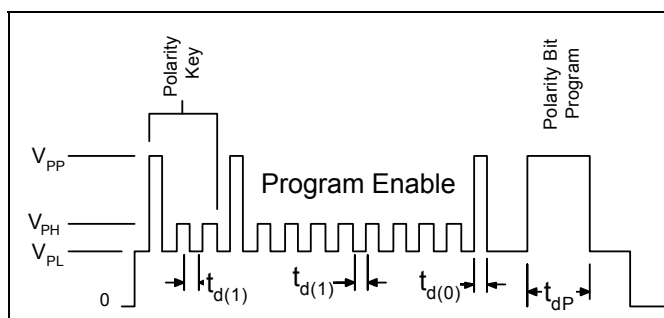

Figure 6. Polarity Bit Programming
**Polarity Bit Programming** If the desired switchpoint has negative polarity, the polarity bit must be programmed. To do this it is necessary to first apply the polarity key sequence before the program key sequence (figure 6). Finally a  $V_{PP}$  pulse of duration  $t_{dP}$  must be applied to program this bit, the programming is not reversible. The polarity bit is for adjusting programming range only and will not affect the output polarity.